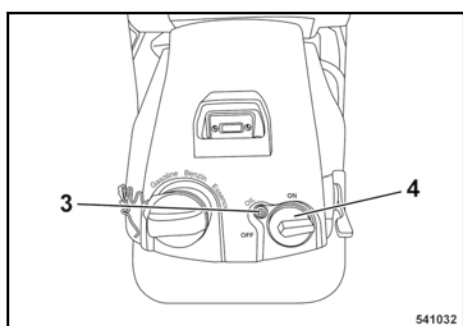

Fig. 8
If the oil level warning lamp (3) in Fig. 8 lights up when starting the engine, the oil level must be corrected, as otherwise the engine cannot be started.